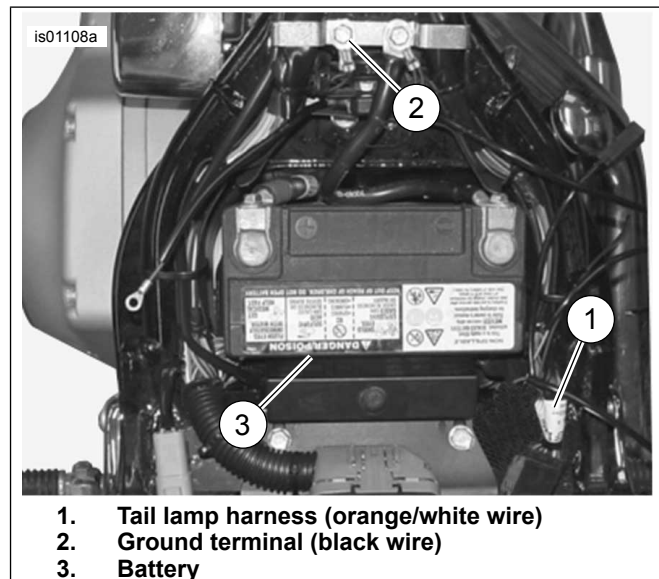

Figure 2. Power and Ground Connections (Softail Models)
4. See Figure 2. Install the ring terminal onto the ground screw threads. Fasten the ground screw to the frame (2). Secure per the torque specification in the service manual.
- See Figure 2. Carefully slice open an area of the tail lamp harness (1) wrap at an accessible point under the seat. Cut the orange/white wire.